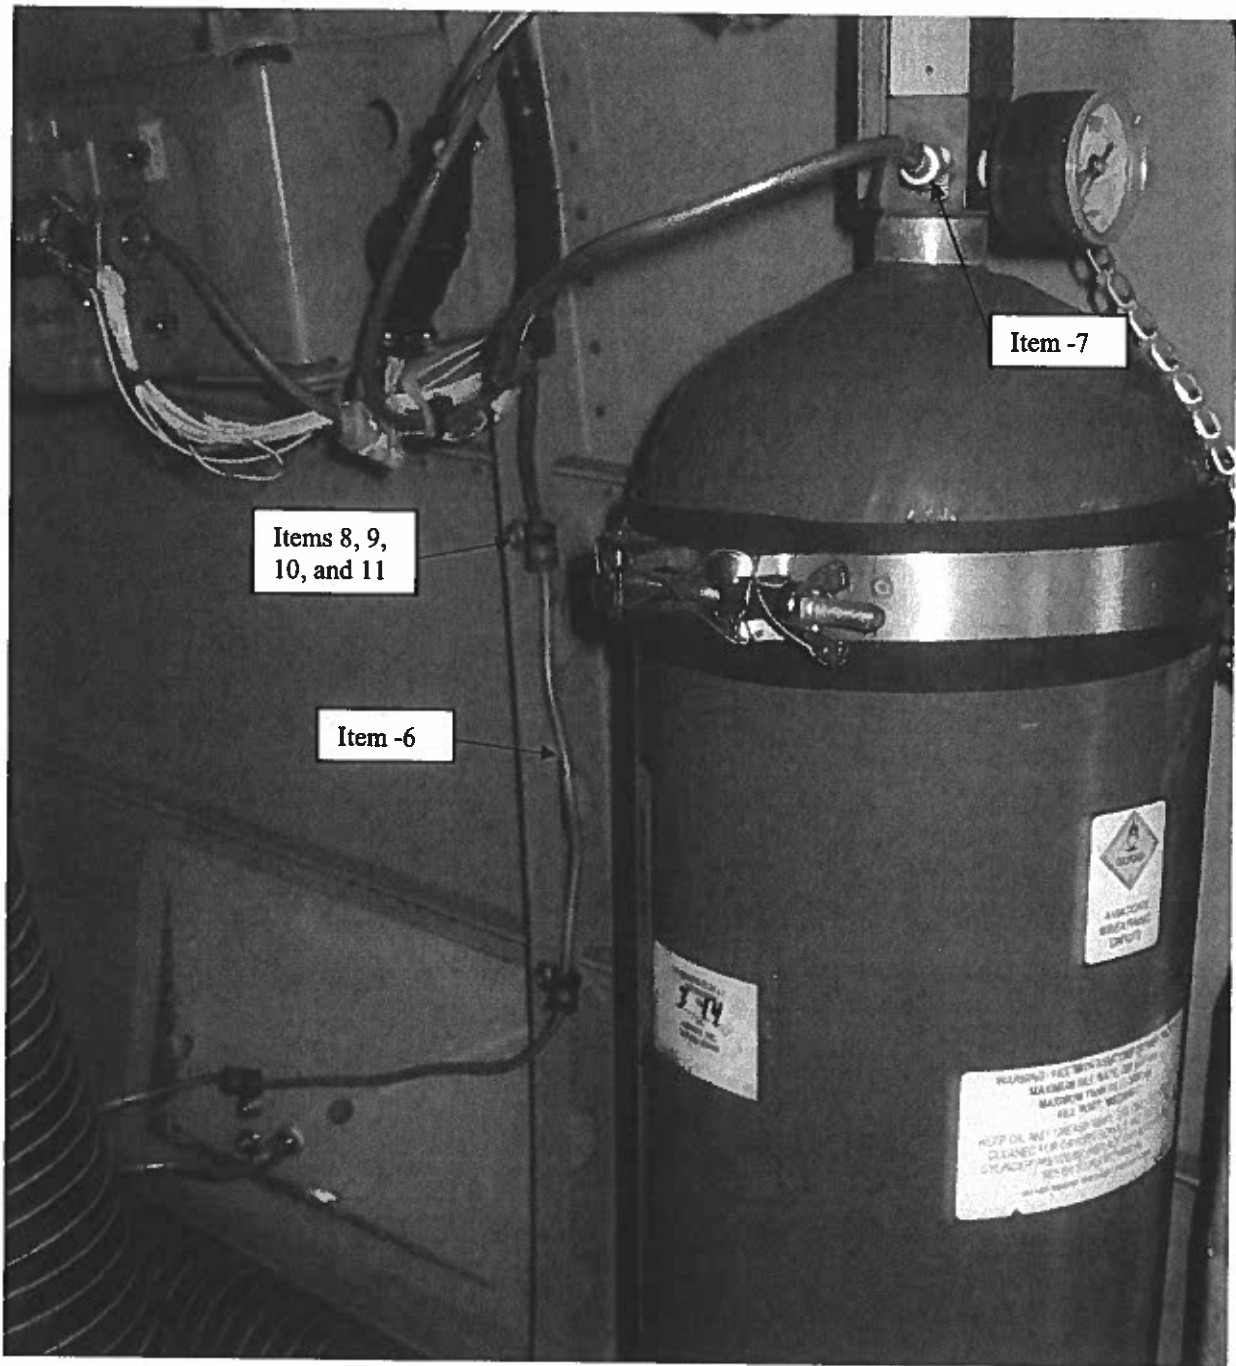

Figure 4.3. High Pressure Line Installation
- 1.2.12 Using a #7 bit, drill flange of bulkhead at FS 222 at two points at a height that allows good routing of item -6 between item -2 and the oxygen bottle. Deburr holes and install clamps, item -8, with hardware, items -9 through -11. See Figure 4.3.
- 1.2.14 Install Manifold, item -13, inside item -2, using hardware, items -10 through -12. Ensure chain to the service port cap is captured by the lower bolt, item -12 holding item -13 in place. Install clamp, item -8, on end of the upper bolt, item -12. See figure 4.3.
- 1.2.15 Install high pressure line, item -6, between the manifold and the bottle, routed through the three clamps as shown in figure 4.3. Ensure a minimum of 1.0 inch radius for all bends. If possible, include a maintenance pigtail on either end of item -6. Torque fittings on item -6 to 70-140 in-lbs.